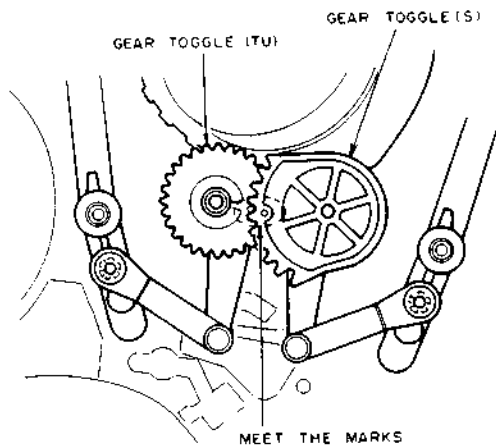

Fig. 4-12
- 8) Set the GEAR TOGGLE (TU) and (S) to the unloaded position with your fingers. At this time match the marks of the GEAR TOGGLE (TU) and (S) as shown in Fig. 4-12.